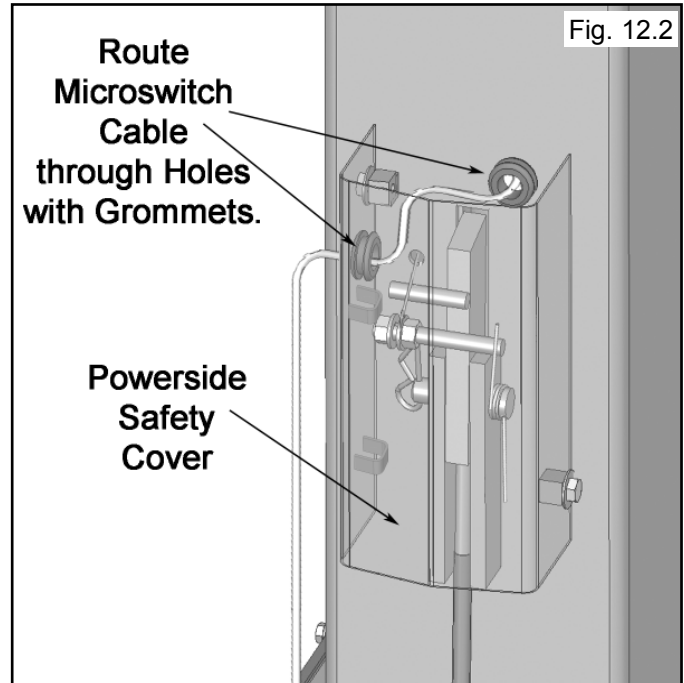

Fig. 12.2
2. Route Microswitch Cord through the hole in Powerside Post with Rubber Grommet. Loosely position Powerside Safety Cover and run other end of Microswitch Cable through Hole with Grommet in Powerside Safety Cover. (See Fig. 12.2)